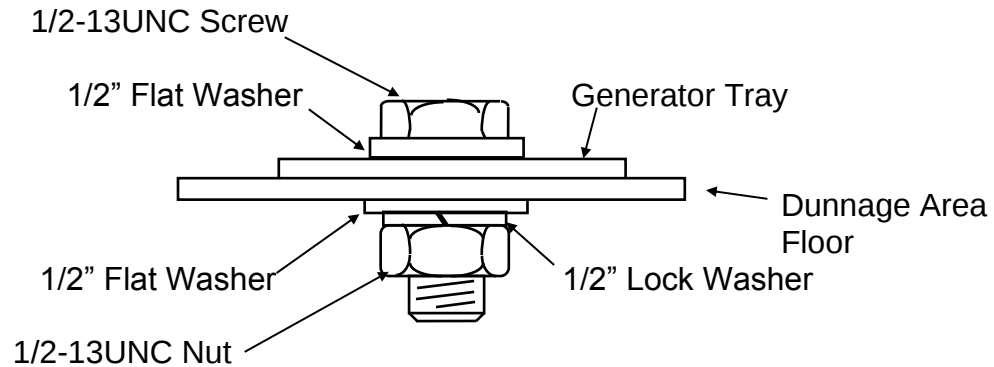

Figure 6
4. Mount the hydraulic generator tray securely to vehicle. Secure the generator to the floor of the enclosure using hardware (not included), as shown in Figure 6.